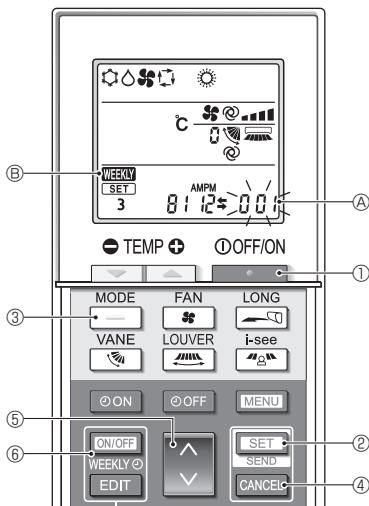

Fig. 5-12
#### 5.10.8. How to disable Auto mode operation (Fig. 5-12)
1. Press the **POWER** button ① to stop the air conditioner.
- If the weekly timer is enabled, press the **ON/OFF WEEKLY** button ⑥ to disable the timer. (**WEEKLY** ⑧ disappears.)
2. Press the **SET** button ② for 5 seconds.
- The unit enters the function setting mode. (The group model setting number ④ blinks.)
3. Press the **UP** button ④.
4. Completing the settings (Fig. 5-12)